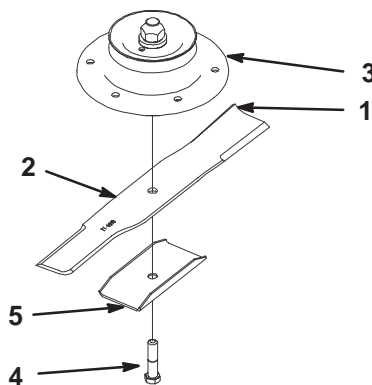
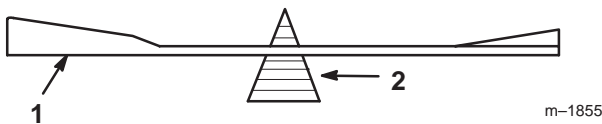

Figure 42
Figure 44
1. Hold the blade end using a rag or thickly-padded glove. Remove the blade bolt, blade stiffener and blade from the spindle shaft (Fig. 42).
2. Check the balance of the blade by putting it on a blade balancer (Fig. 44). If the blade stays in a horizontal position, the blade is balanced and can be used. If the blade is not balanced, file some metal off the end of the sail area only (Fig. 42). Repeat this procedure until the blade is balanced.
1. Install the blade onto the spindle shaft (Fig. 42).
Important The sail part of the blade must be pointing upward, toward the inside of the mower to ensure proper cutting (Fig. 42).
2. Install the washer, lock washer and blade bolt (Fig. 42). Torque the blade bolt to 85–110 ft-lb (115–140 N•m).